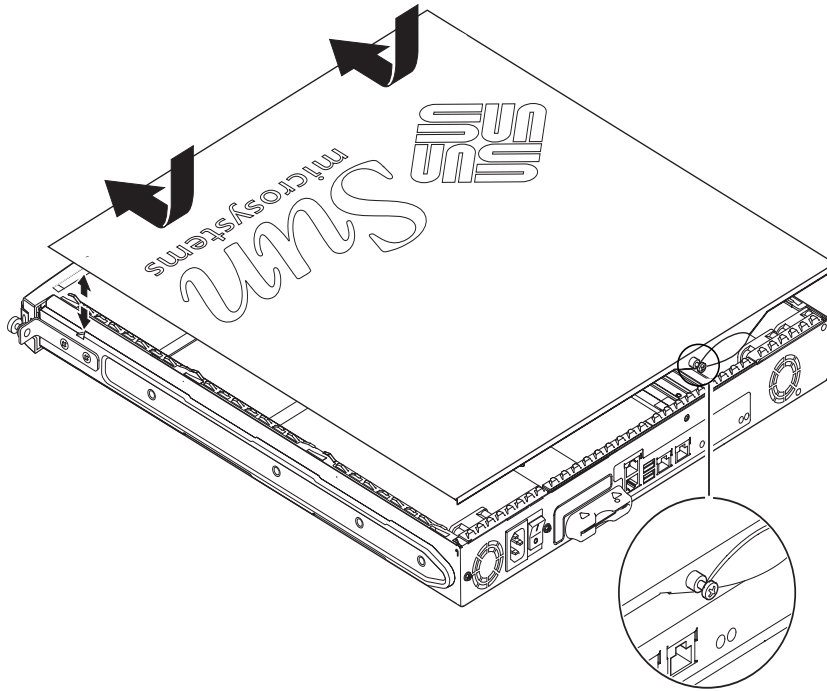

FIGURE 8-4 Replacing the Top Cover
6. Replace the system cover and tighten the captive screw (see FIGURE 8-4).
6. **Replace the system cover and tighten the captive screw (see FIGURE 8-4).**